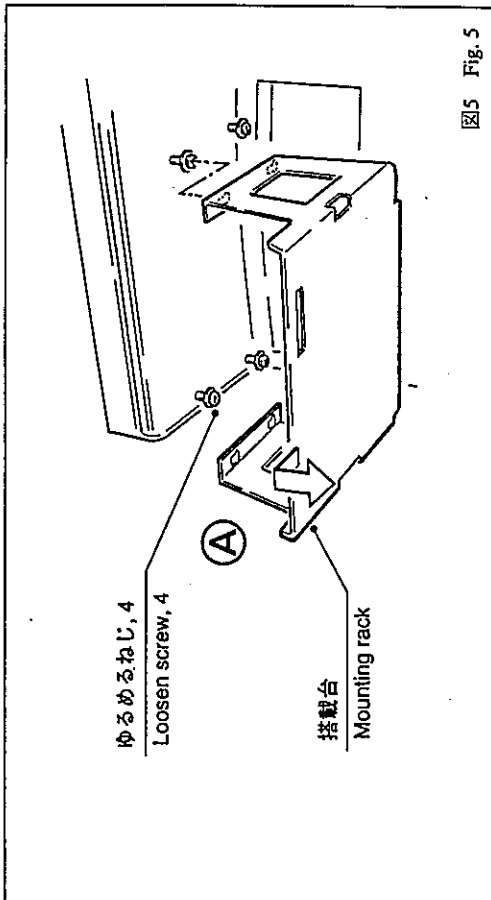

図5 Fig. 5
- (12) SSZ-305搭載台を、ねじ4本をゆるめて取り外す。(図5Ⓐ)
(12) Unfasten 4 screws and remove SSZ-305 mounting rack. (Ⓐ in Fig. 5)